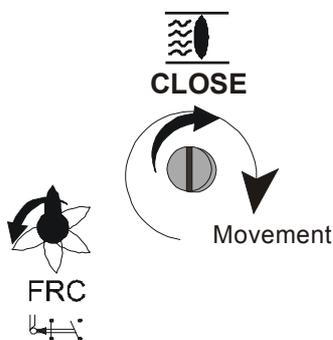
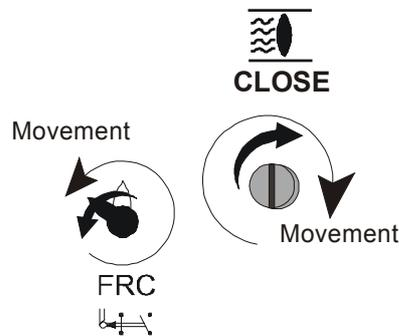

Fig. 9.4.3
Fig. 9.4.4
- Turn U spindle clockwise (Figure 9.4.3) until Z spindle turns Counter-clockwise (At this moment FRC microswitch triggers). Just before FRC microswitch was tripped, Z red arrow should be pointed to vertical: When Z spindle (Red arrow) turns to left the FRC microswitch is tripped (Figure 9.4.4).